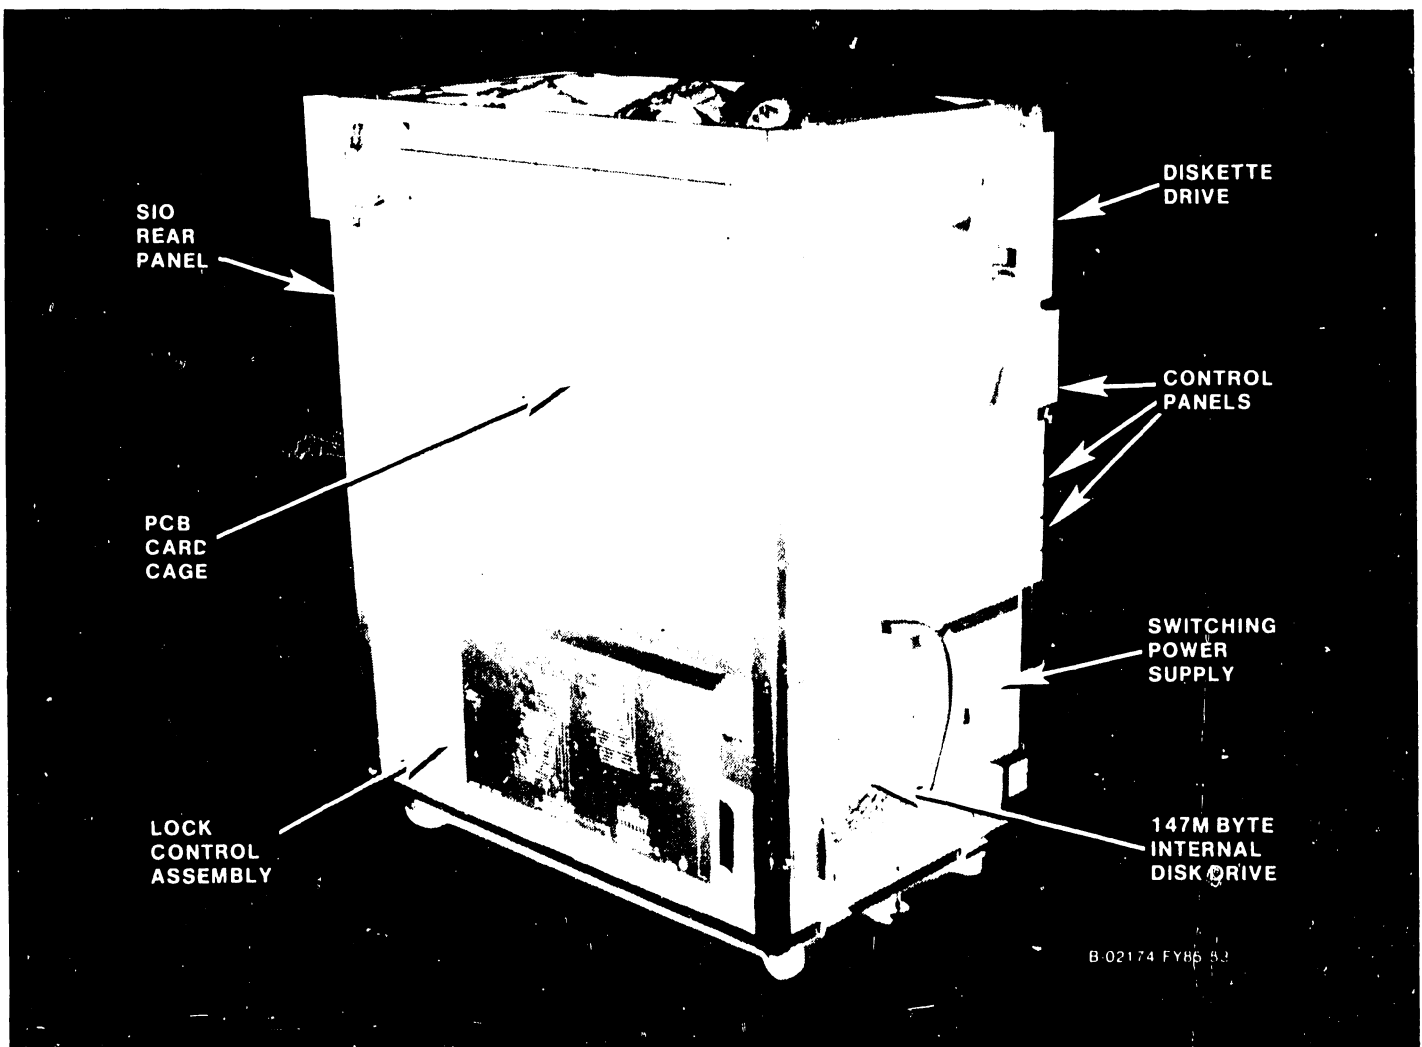

Figure 4-2. VS-65 System with 147 Megabyte Disk Drive
7. Move the mainframe to its permanent location and remove the top, front, and left side covers (see figure 4-2 on page 4-8). (Refer to paragraphs 5.4.1, 5.4.2, and 5.4.3 for disassembly procedures.)
10. Unlock the spindle and actuator positioner of the internal fixed disk drive by moving the RED Lock Control Lever (from the LOCK position) at the rear of the drive (left rear of mainframe) toward the left side of the mainframe. Push it up as far as it will go, and then move it toward the right side of the mainframe into the FREE position. (Refer to figures 4-2, 5-39 and 5-40.)
Recent quality assurance procedures and tests have shown that VS mainframes arriving at the customer's premises require only visual inspection, voltage checks, software verification and/or loading, and cabling. Perform an internal inspection of the VS-65 mainframe, as follows (refer to figure 4-2.):